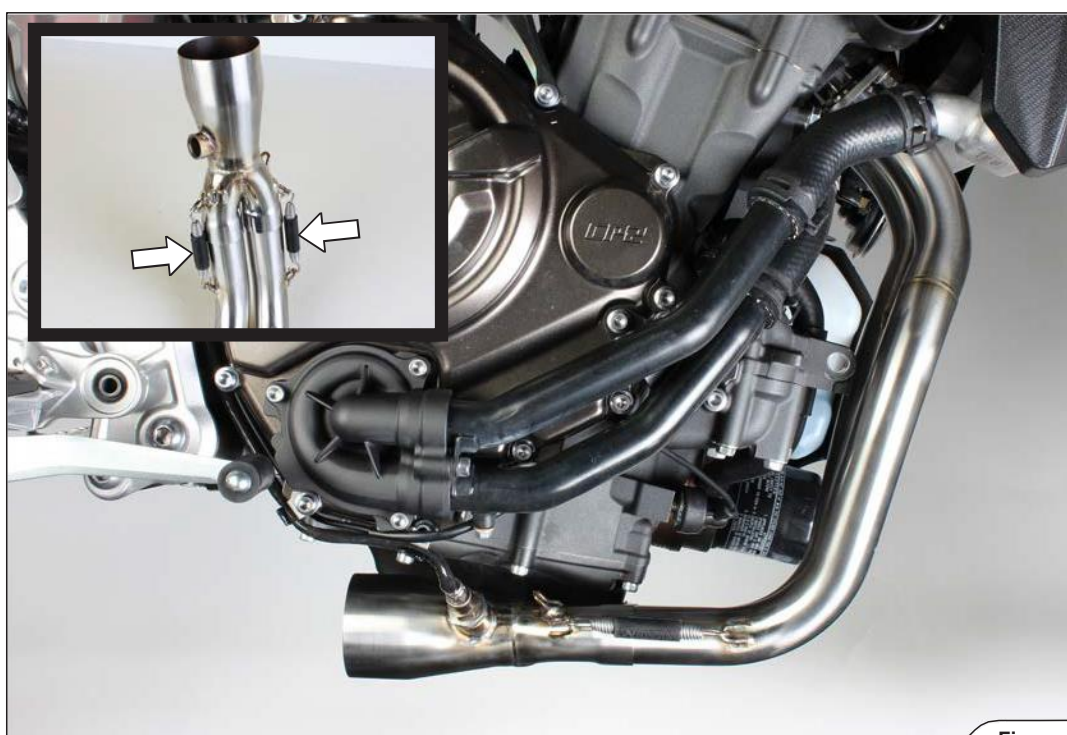

Figure 6
1. Assemble the headers and collector, attach the springs. Install the Akrapović headers onto the motorcycle and hand tighten the flanges onto the cylinder head (using stock nuts) and tighten the lambda sensor into the collector (**Figure 6, 7, 8**).